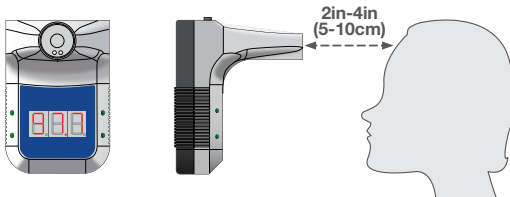

Fig. 7
2. Stand directly in front of thermometer - no more than 2in to 4in (5cm to 10cm) away. The middle of the forehead should be level with the probe. The device will beep and display the temperature reading on the LCD. (Figure 7)